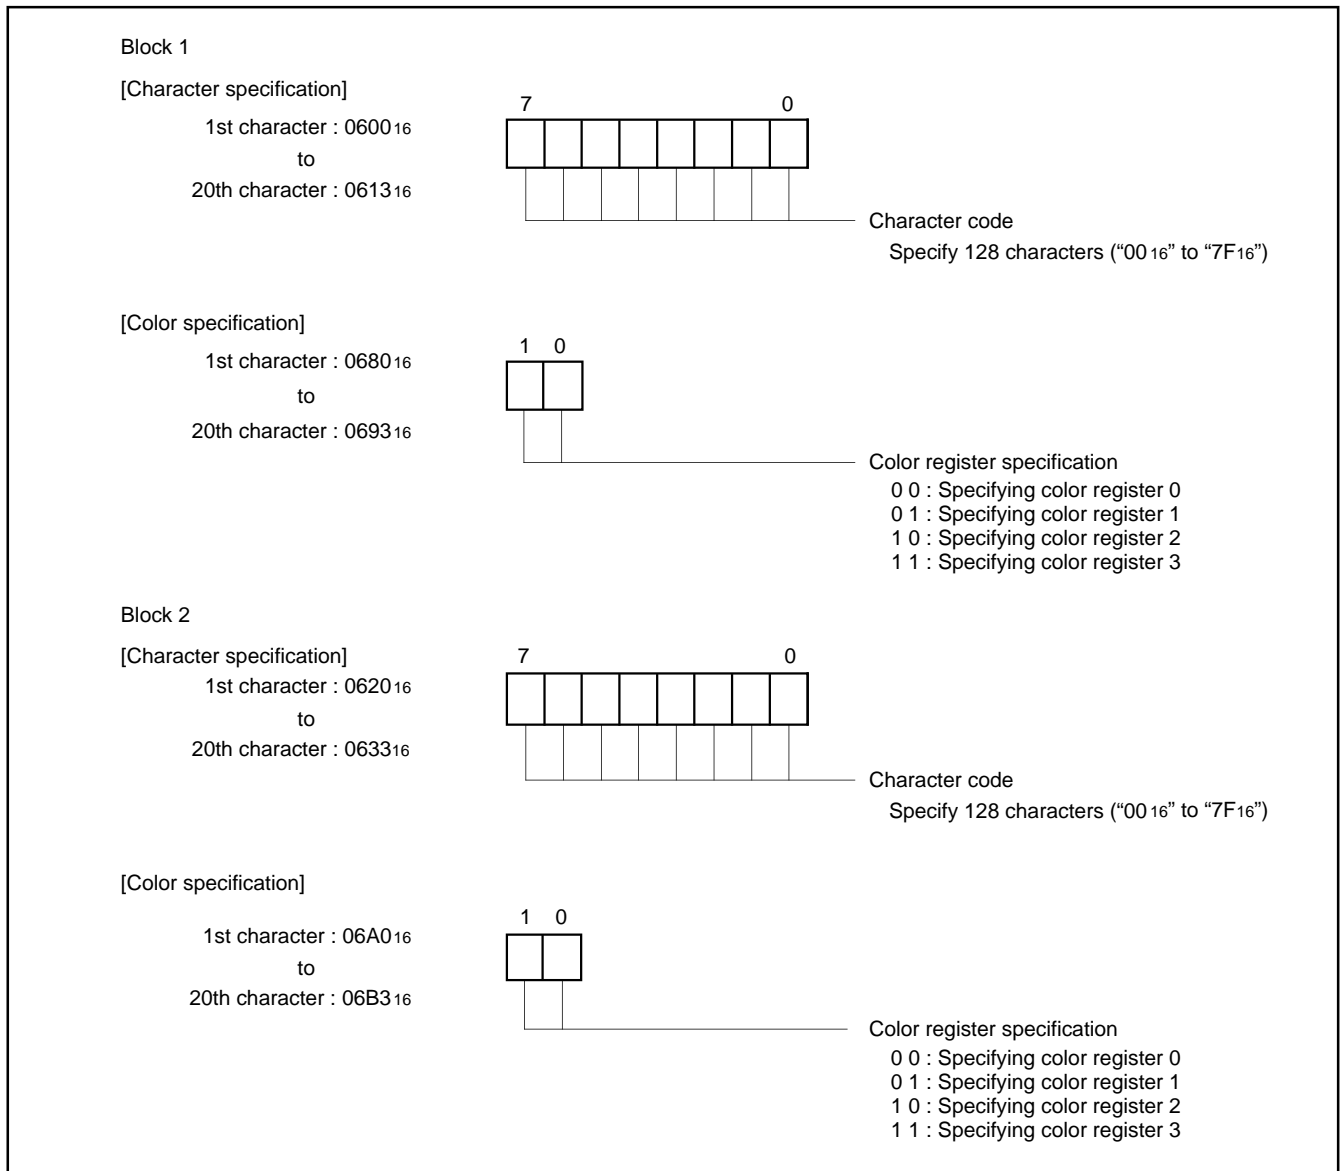

Fig. 43. Structure of CRT Display RAM
For example, to display 1 character position (the left edge) in block 1, write the character code in address 060016 and write the color register No. to the low-order 2 bits (bits 0 and 1) in address 068016. The color register No. to be written here is one of the 4 color registers in which the color to be displayed is set in advance. For details on color registers, refer to (5) Color Registers. The structure of the CRT display RAM is shown in Figure 43.